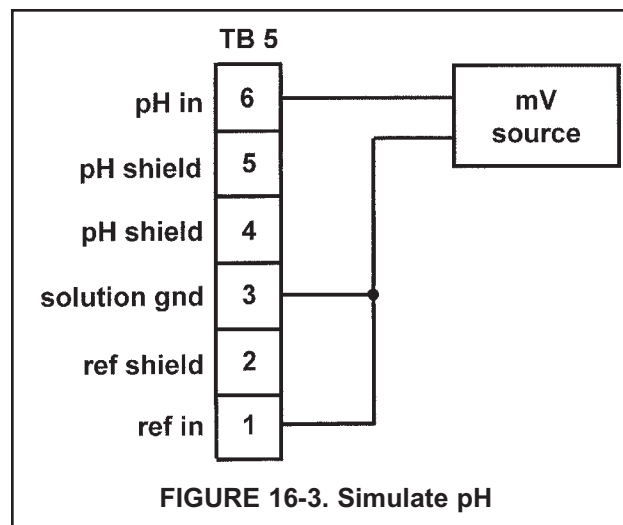

FIGURE 16-3. Simulate pH
4. If a standard millivolt source is available, disconnect the jumper wire between the pH IN and the REFERENCE IN terminals and connect the voltage source as shown in Figure 16-3.
The procedure is the same as described in Section 16.11.2. Keep the connections between the analyzer and the junction box in place. Disconnect the sensor at the sensor side of the junction box and connect the voltage source to the sensor side of the junction box. See Figure 16-3.